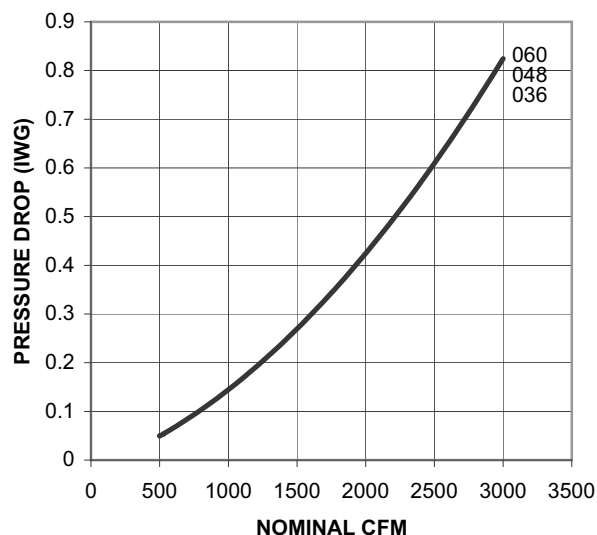

Figure 17: Pressure Drop Across Coil
4. Knowing the pressure drop across a dry coil, the actual CFM through the unit can be determined from the curve in Pressure Drop vs. Supply Air CFM (Figure 17).